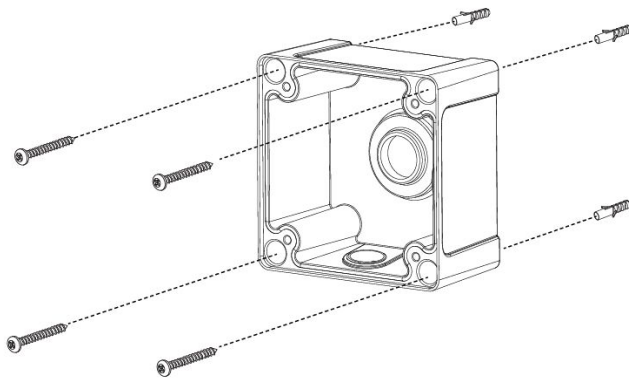

Figure 1-2
Step 2 Install the anchors into the predrilled holes. Align the screw holes of the included junction box with the mounting hole sites, and then tighten the mounting screws into the screw holes until they are held firmly. See Figure 1-2.